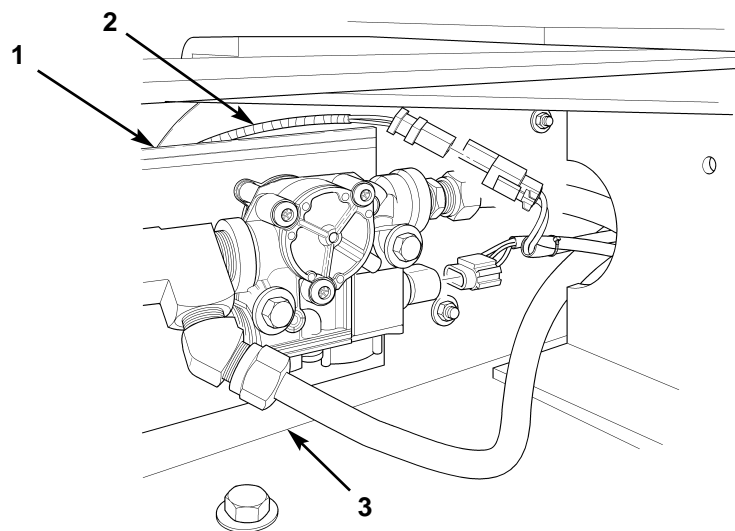

Figure 7. Routing Wheel Sensor Cable
5. Route wheel sensor cable (figure 7, item 2) up to frame rail (figure 7, item 3) and behind left rear modulator mounting bracket (figure 7, item 1).